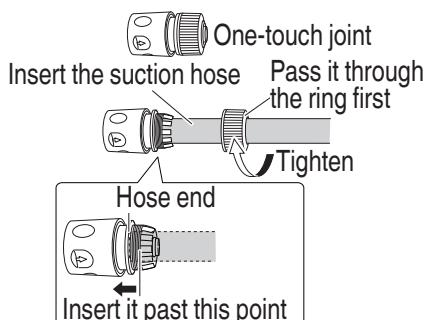

Fig. 16
2. Attaching the one-touch joint (black) to the suction hose (Fig. 16)